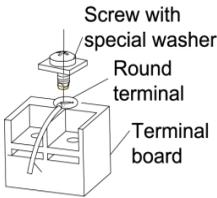

Fig. 27
- 4) Position the round terminal wire, and replace and tighten the terminal screw with a screwdriver.(Fig. 27)